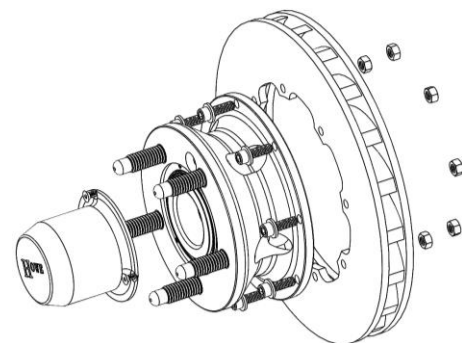

Figure 3 - Direct mounted rotor, dust cap
1. Insert your 5/16"-18 x 1" bolts with washers through the hub and into the rotor. (*figure 3*) Bolts can be inserted in either direction, but we recommend them oriented with the thread/nut on the inside.